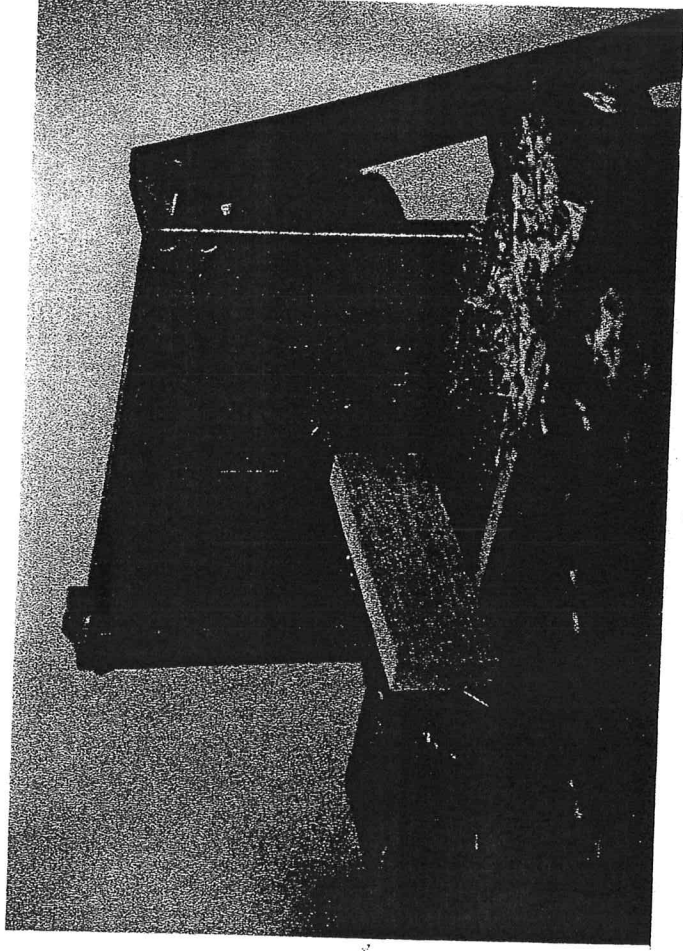

Fig. 11
2. Place piece A on its edge and center the bit to the width of the board. Cut a groove in the center of workpiece A. (fig. 11)